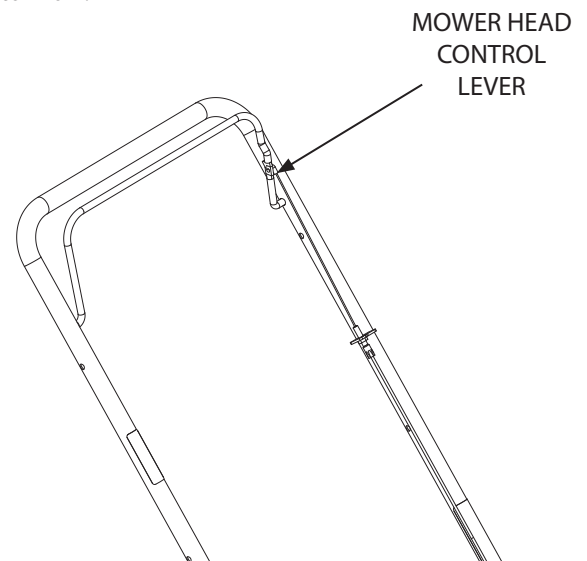

FIGURE 5: Using The Mower Head Drive Lever.
1. To engage the mower head, hold the control lever against the handle. The faster the engine runs, the faster the mower head will rotate. **SEE FIGURE 5**